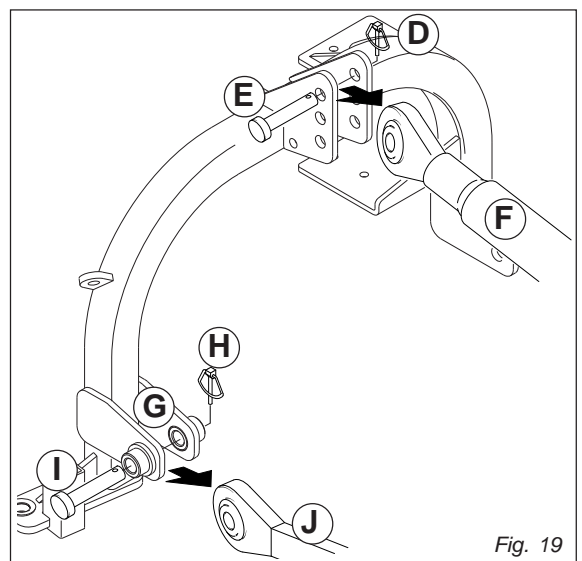

Fig. 19
5. Remove quik-lock pin (D, Fig. 19) and pin (E, Fig. 19) from center link (F, Fig. 19).
6. Remove draft links (J, Fig. 19) from draft link brackets (G, Fig. 19) by removing quiklock pins (H, Fig. 19) and pins (I, Fig. 19).